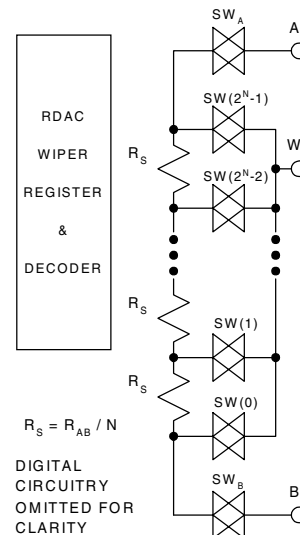

Figure 3. Equivalent RDAC structure
The actual structure of the RDAC is designed to emulate the performance of a mechanical potentiometer. The RDAC contains a string of connected resistor segments, with an array of analog switches that act as the wiper connection to several points along the resistor array. The number of points is the resolution of the device. For example, the AD5232 has 256 connection points allowing it to provide better than 0.5% set-ability resolution. Figure 3 provides an equivalent diagram of the connections between the three terminals that make up one channel of the RDAC. The SWA and SWB will always be ON while one of the switches SW(0) to SW(2N-1) will be ON one at a time depending upon the resistance step decoded from the Data Bits. Note there are two 50 ohm wiper resistances, RW. The resistance contributed by RW must be accounted for in the output resistance. At terminals A-to-wiper, RW is the sum of the resistances of SWA and SWX. Similarly, RW is the sum of the resistances SWB and SWX at terminals B-to-Wiper.